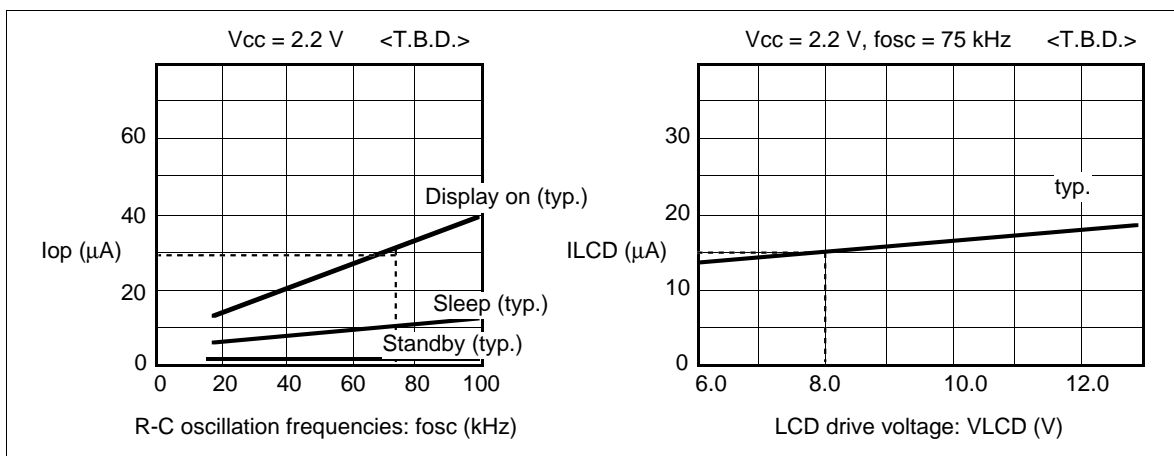

Figure 43 Relationship between the Operation Frequency and Current Consumption
8. The following shows the relationship between the operation frequency (fosc) and current consumption (Icc) (figure 43).